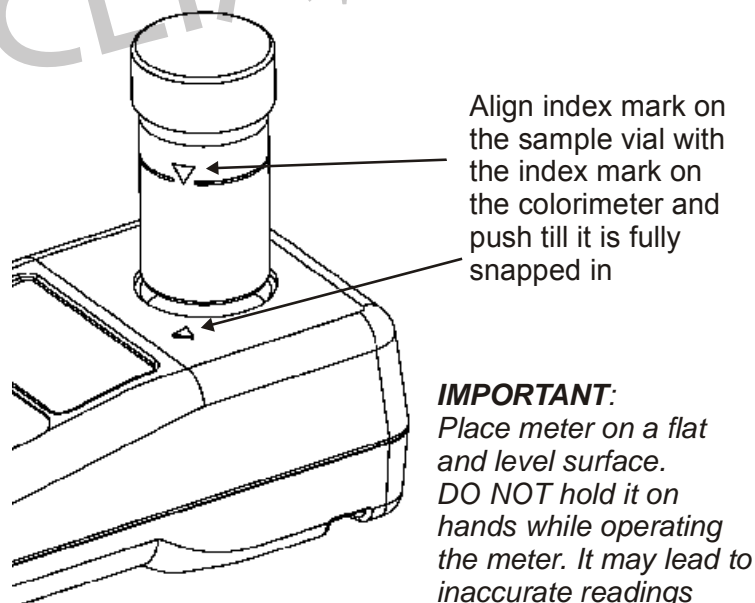

Figure 8: Sample vial index alignment to the meter's index mark
2. Place the sample vial inside the sample well and align the vial's mark with the meter's index mark. See Figure 8.